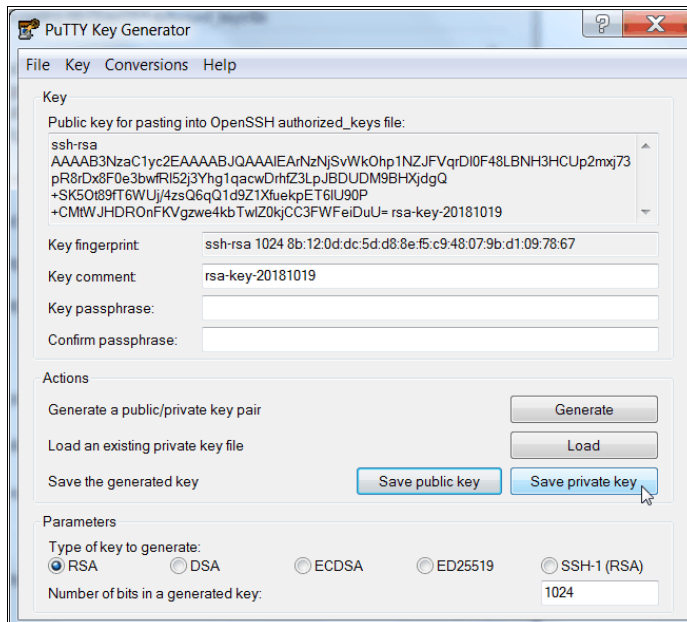

Figure A-5 Save private key
5. Click **Save private key** (see Figure A-5).